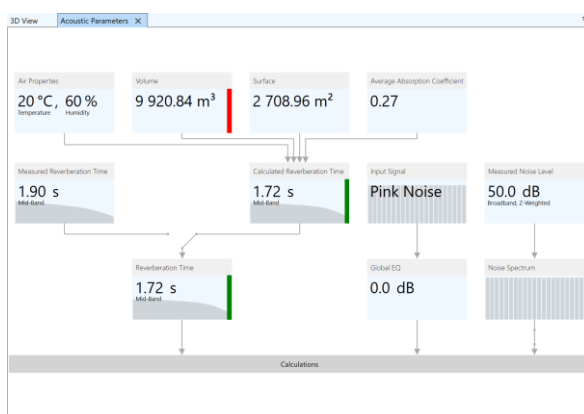

Figure 7.32 Room volume indicator is red due to missing or inverted faces.
1. Check the room volume using the VOLUME display in the ACOUSTIC PARAMETERS window (Figure 7.32).